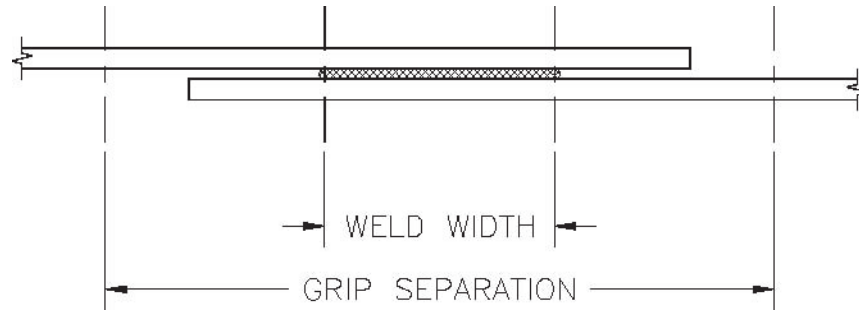
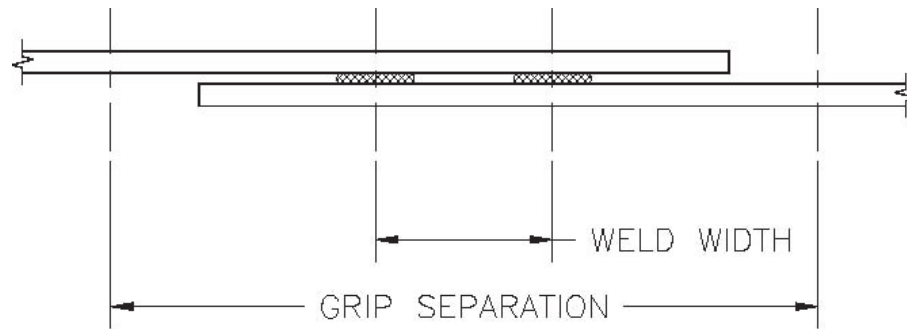

Figure 6A
Figure 6B
- c. **Weld Width (WW):** The center-to-center distance between the two welds of a dual-track weld (refer to Figure 6A) or the edge-to-edge distance on a solid weld (refer to Figure 6B). It is important when measuring/calculating these distances that the operator only include the actual width of the weld. The width of the weld is defined as only that area where the two sheets of parent material have been appropriately bonded by both heat and pressure. During this process some parent material may extrude beyond the pressure zone of the welding tool (refer to Weld Extrusion definition). This extruded material does not usually provide an acceptable bond of the parent material and should therefore be excluded from any measurements made for this test.
- d. **Gauge Length (GL):** This is the base value used by the Pro-Tester™ for determining elongation percentage. It is the Grip Separation once the initial tension value has been reached minus the Weld Width ($GS - WW = GL$). For example if your Grip Separation was 4 inches and your Weld Width was 1 1/2 inches then your Gauge Length would be 2 1/2 inches ($4 - 1.5 = 2.5$). It is this value that is used to determine elongation. Elongation is calculated as the percentage of change (increase) of the Grip Separation related to Gauge Length. For example if your Gauge Length is 2 1/2 inches and the grips had separated 1 1/4 inches at the completion of your test then the elongation would be 50% ($1.25 / 2.5 = .50$). If your Gauge Length is 2 1/2 inches and the grips had separated 2 1/2 inches at the completion of your test then the elongation would be 100% ($2.5 / 2.5 = 1.00$).